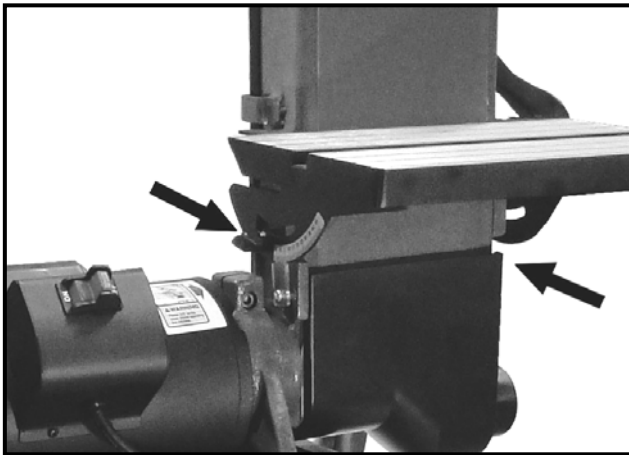

Figure-6 Belt sander tilting scale locks
3. Loosen the two lock screws located under the table and remove the belt sander table. See figure-6